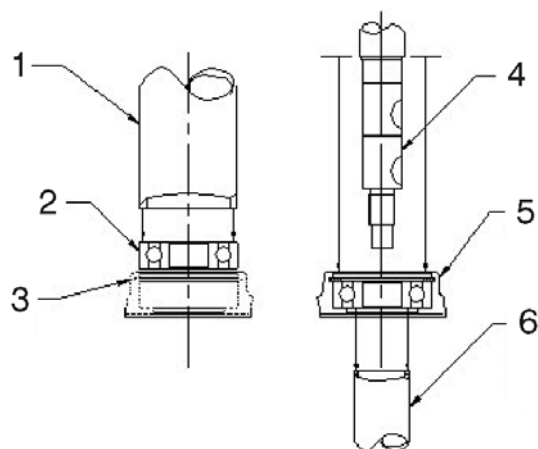

Figure 3-25. Drive Motor Shaft Bearing
2. After the motor has been disassembled, it is recommended that new bearings be installed because bearings may have been damaged during removal. Although the bearings may appear and feel good, the bearing races could be "brinelled" (races or balls deformed) and may exhibit noise and vibration problems or fail within a relatively short period of service. Press a new bearing into the commutator end head, pressing on the outer race only. See Figure 3-25.. Replace the Retaining Ring (7) in the retaining ring groove.
3. Press the Armature (3) commutator end into the commutator end head and bearing assembly, carefully supporting the inner-race of the bearing. See Figure 3-25.
4. Carefully release the Brush Springs (4) allowing the Brushes (5) to contact the commutator. Make sure brush shunts do not interfere with spring movement.
5. Assemble the commutator end head to the Frame & Field Assembly (2) and tighten the screws to 120 - 140 in-lb (13.6 - 15.8 Nm). Make sure to align the field connection with the notch in the commutator end head. Seal wires where they exit from commutator end head with the Grommet (10).
6. Place the Gasket Seal (12) in the bottom of the notch in the commutator end head. Align wires from the Brake Assembly (11) into the notch in the commutator end head. Secure brake assembly to commutator end head using three bolts.
7. Install Wire Harness (1) to motor by connecting the brake connectors and securing the armature terminals to the terminal studs. Crimp the field connection (red/orange to orange and blue to blue) together and heat shrink. Motor terminals must be assembled as shown in **Always secure the bottom nut with a wrench as you tighten the top nut.** Torque top nut to 90 - 110 in-lb (10.2 - 12.4 Nm).